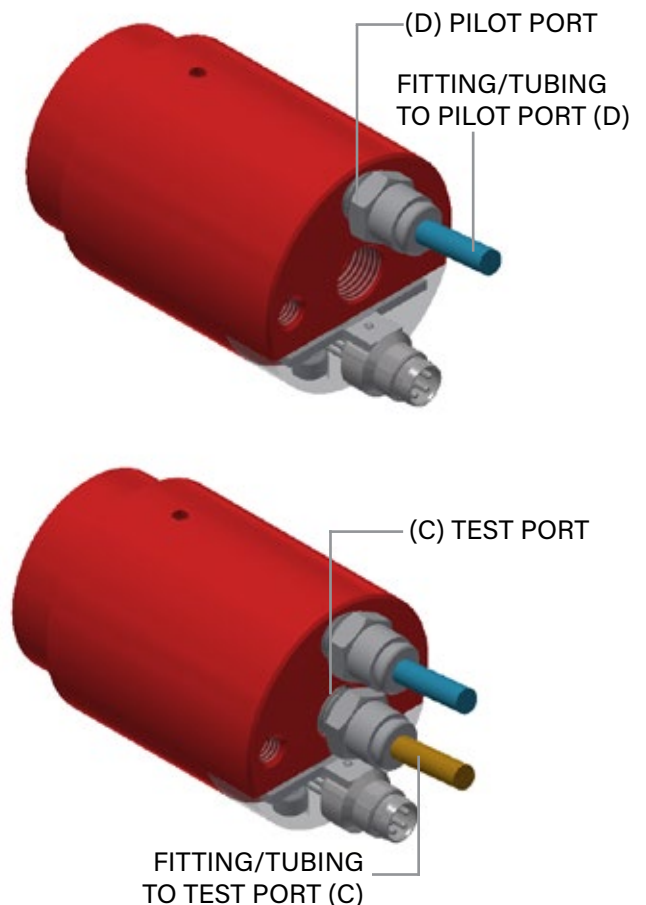

Figure 4. Attachment of Pilot and Media Lines
- 3.1. Attach pilot pressure line to pilot port (D) from Figure 4
- 3.2. Attach test media line to test port (C) from Figure 4.